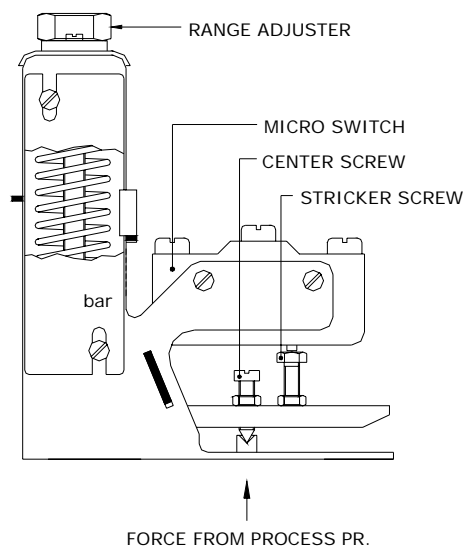

FIG.1 Fixed ON-OFF Differential Model
- The center screw and the striker screw are precisely adjusted and factory-set using Loctite. **Alteration** of centre screw height will disturb the contact established between the sensor and the balance beam. **Disturbance** of striker screw will result in microswitch not acting or set-point shift. Ref. Fig 1.